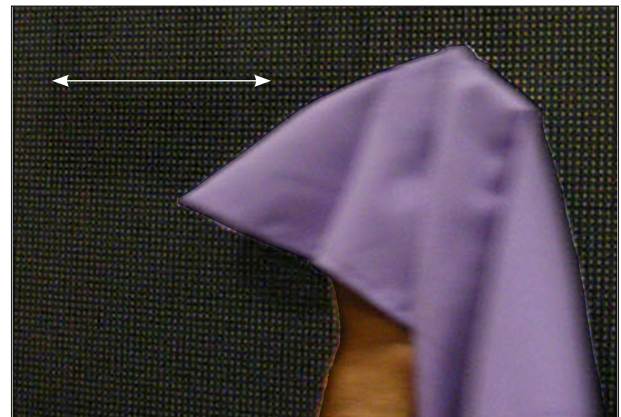

Figure 3: Wipe Module Up-and-Down
3. Apply light, even pressure with two or three fingers and steadily wipe the module in an up-and-down motion, covering about 1" of width with each wipe. Refer to **Figure 3**.